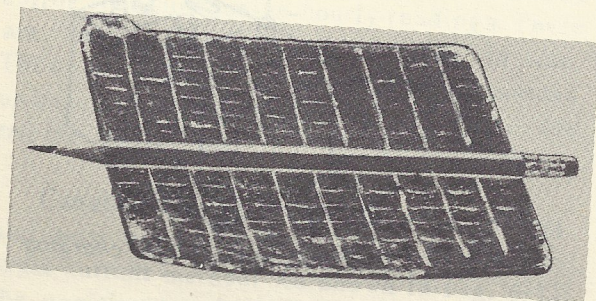

Fig. 6-15
3. Positive plates sometimes warp or buckle from overcharging, as shown in Fig. 6-15.